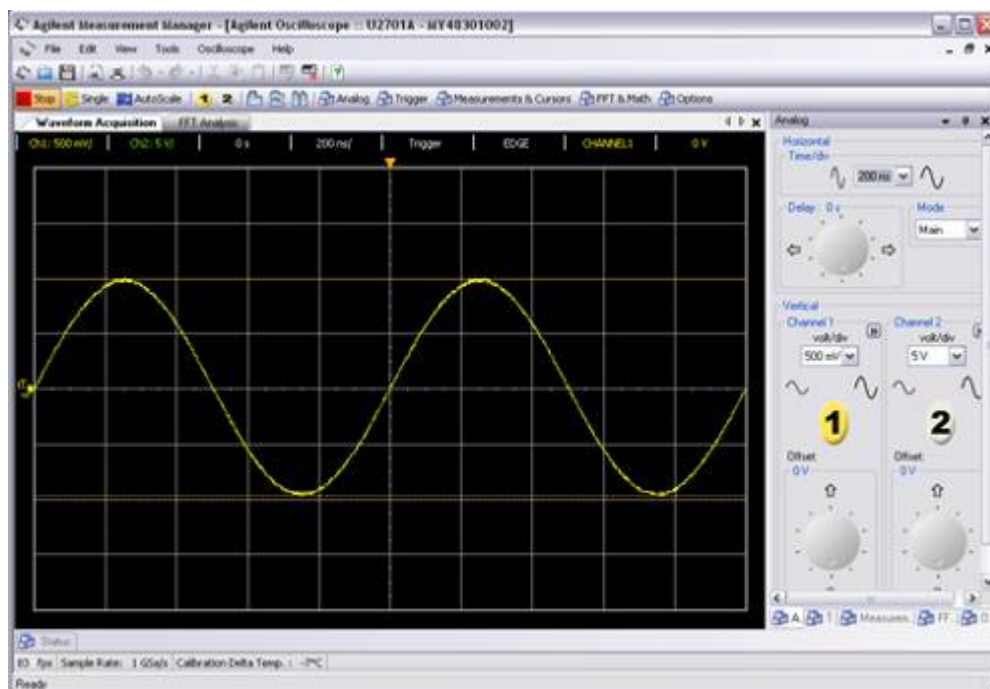

Figure D-2 – Graphical User Interface of the Agilent Measurement Manager (Oscilloscope)
5. Figure D-2 shows the general graphical user interface of the Agilent Modular Oscilloscope on the Agilent Measurement Manager.